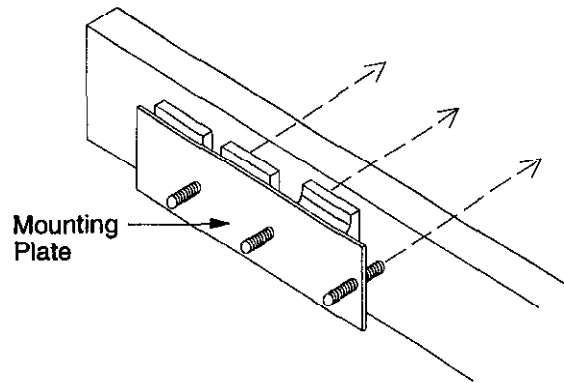

Figure 3-14. Removal of 3-Terminal Regulator Screws
3. Remove the 3-terminal regulator attaching screws (Figure 3-14).